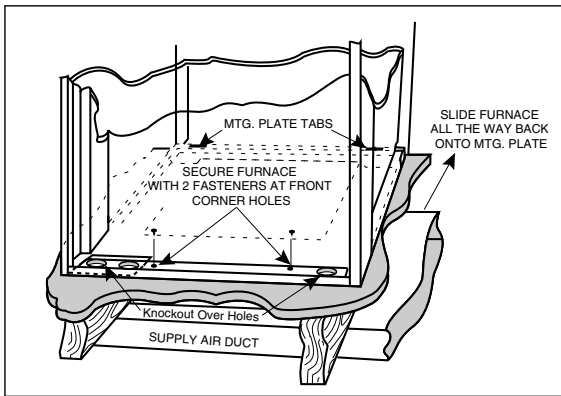

Figure 13. "A", "B", & Platinum Cabinet Furnaces
- d. Secure front with one (1) fastener at each corner (See Figure 13 or 14).